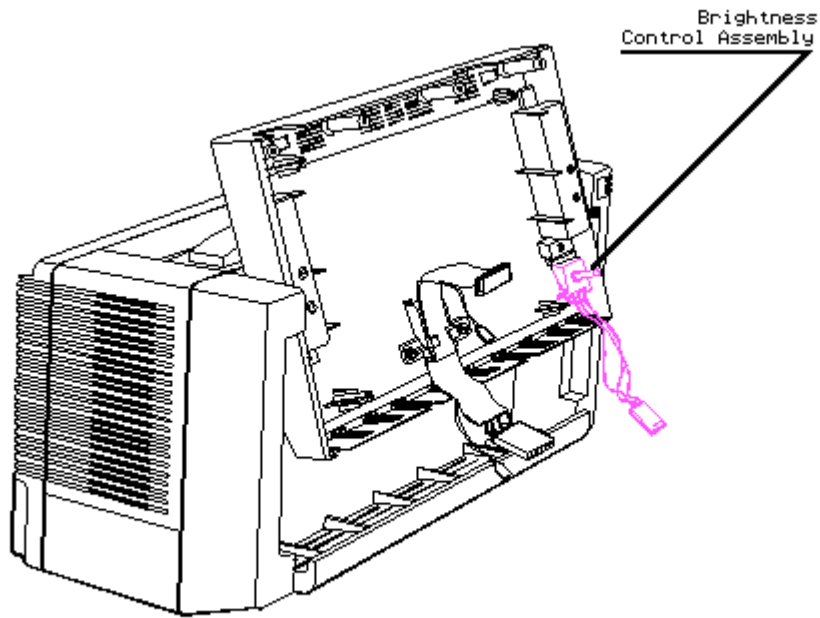

Figure 8-78. Brightness Control Assembly Location
3. Locate the brightness control assembly shown in Figure 8-78.